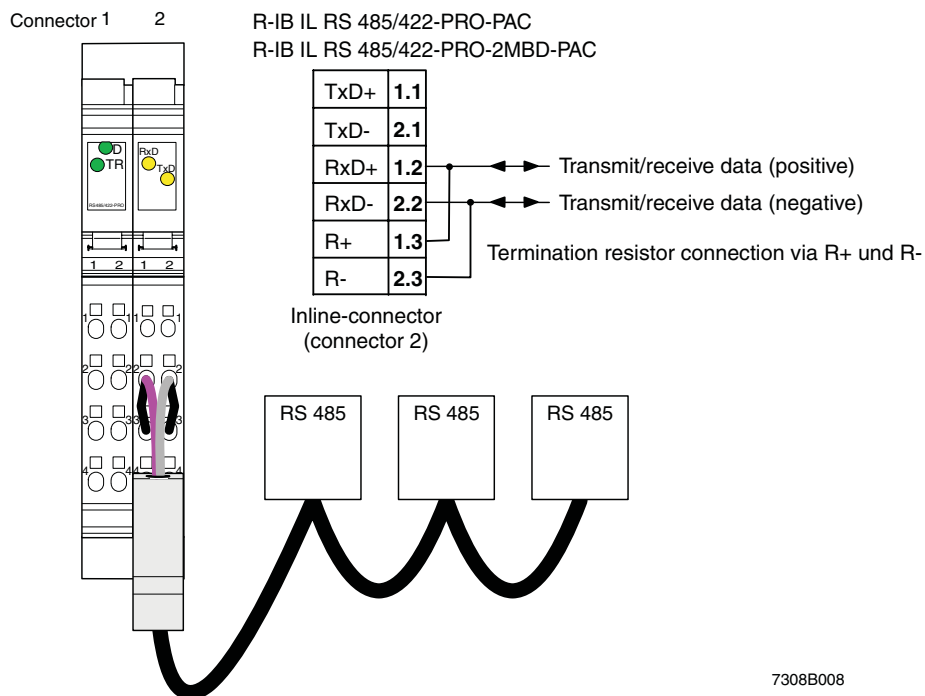

Fig. 5 Interface Wiring RS485: terminal as the end point of a network data line shield connected with a capacitor to FE
Connection examples are shown in Figures 5 to 7 on pages 10 to 11.
8.1 Comparison of Wiring Examples in Fig. 5 to Fig. 9